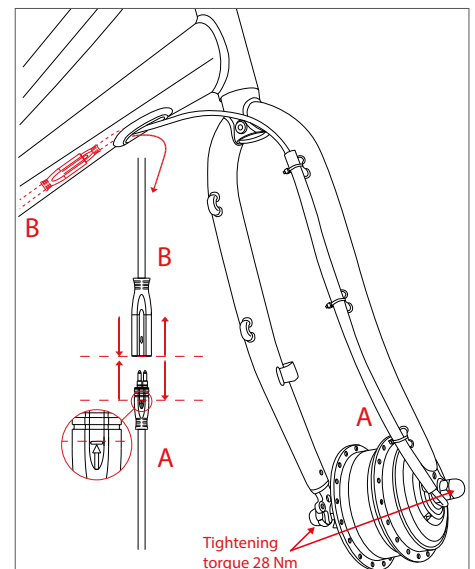

Figure 4.1 Motor cable connection and disconnection – front motor
1. Place the wheel in the fork (Fig. 4.1). Carefully position the cable when inserting into the fork to avoid damage – **the cable outlet must point downwards!**
4. Plug the motor cable connector into the connector of the motor extension cable (Fig. 4.1 and 4.2).